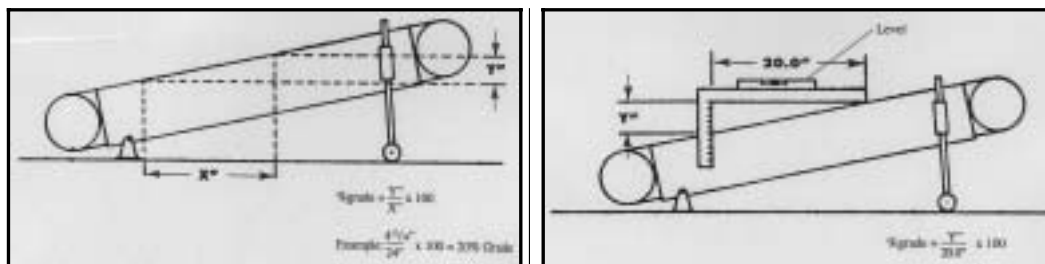

Figure 2-3. Calibration of elevation
- Using the Carpenters Square and a level, measure the change in grade from low to high (rise over run). The change in grade should equal 4 12/16 inches for every 24 inches of length (or 2 2/8 inches for every 11 inches of length. See Figure 2-3.